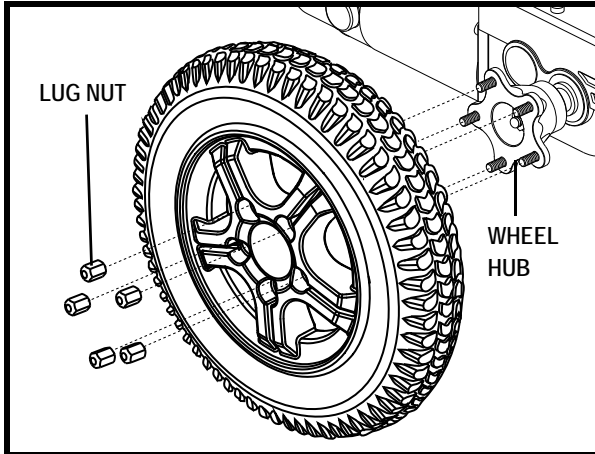

Figure 27. Fusion Drive Wheel
4. Remove the lug nuts from the wheel hub. **See figure 27.**